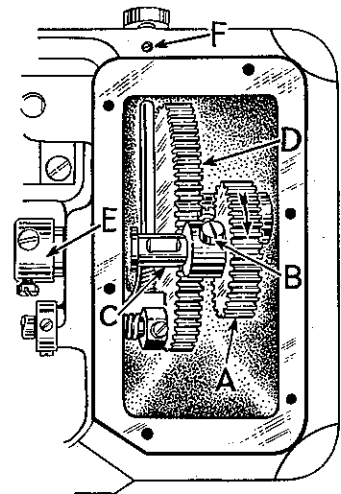

Fig. 18
3. Loosen screws (B, Fig. 18) and slide gear (A) to the extreme right so it is out of mesh with the idler gear (D).